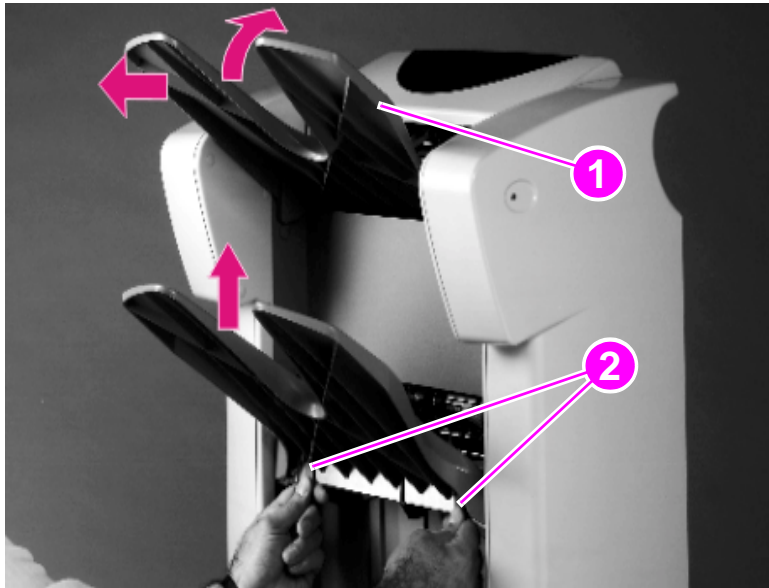

Figure 96.
- 1 Tilt the end of the face-up bin upward (figure 96, callout 1).